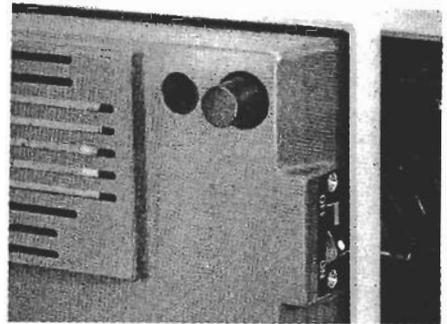

Fig. 5
- 1) Place the sliding voltage control lever on the right side of the microscope base to a position closest to you (low voltage position). Switch on the light source. (Fig. 5)